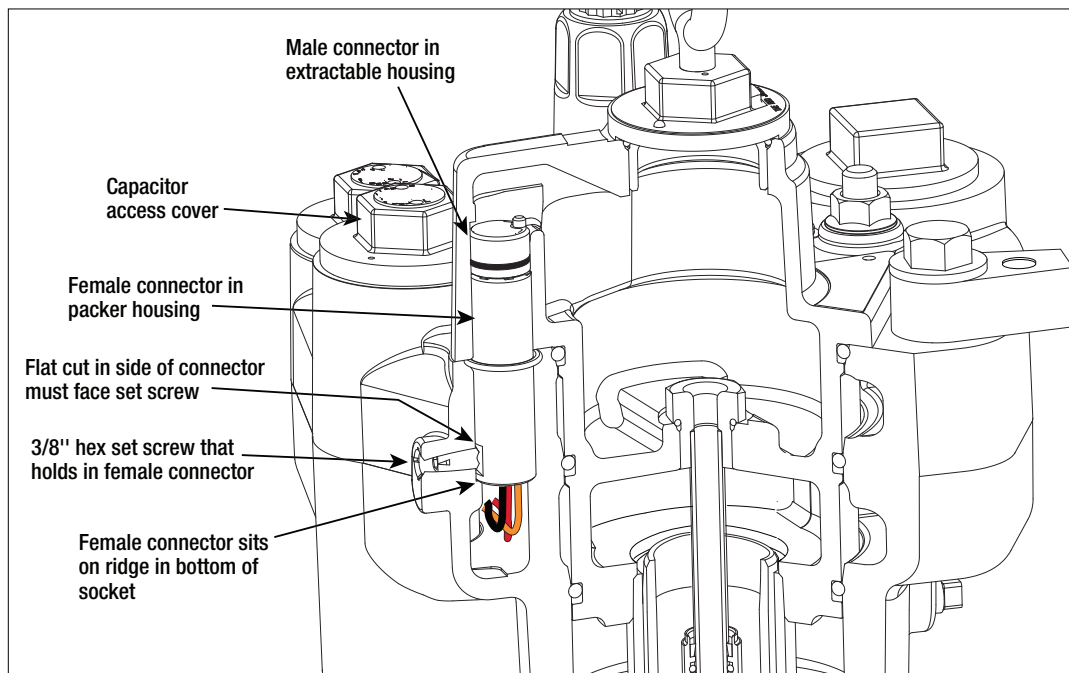

Figure 39. Female Connector Set Screw Location
21. Remove capacitor access cover (see Figure 39). Remove and discard the O-ring from the cover and set aside the cover. Observe the three wiring connections from the female connector. Make a note of which wire from the connector connects to which wire from the incoming power wiring. Cut the incoming power wires from the female connector wires and discard the connectors.
22. Using a 3/16" hex wrench, turn the set screw that holds the female connector in place about 1-1/2 turns counterclockwise until you can lift out the connector (see Figure 39).